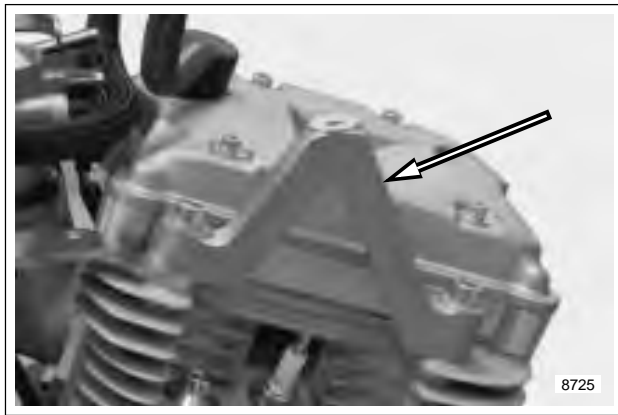

Figure 3-28. Center Tie Bar Mount
- b. See Figure 3-28. Center tie bar mount.